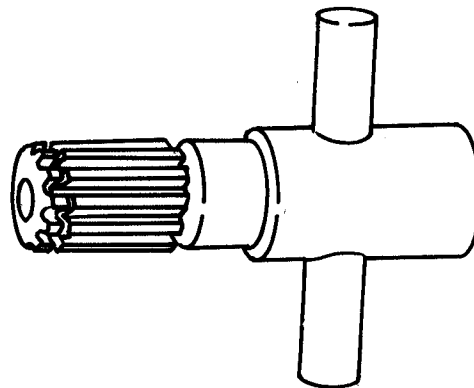

FIG. 4.64-CHECK OUTPUT SHAFT ASSEMBLY
15. Inspect output shaft assembly, Fig. 4.64 and replace if damaged or excessively worn. It is a slightly press fit in the bearing and can be removed by tapping inward. The shaft cannot be reinstalled without using Tool No. 1145, however, the output shaft bearing must be removed to permit usage of tool.